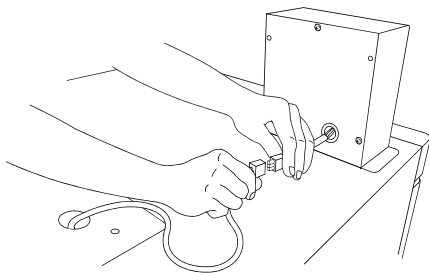

Fig.4
10. Join the wire from the freezer and wire from the recorder by using the enclosed connecting wire. See Fig. 4.